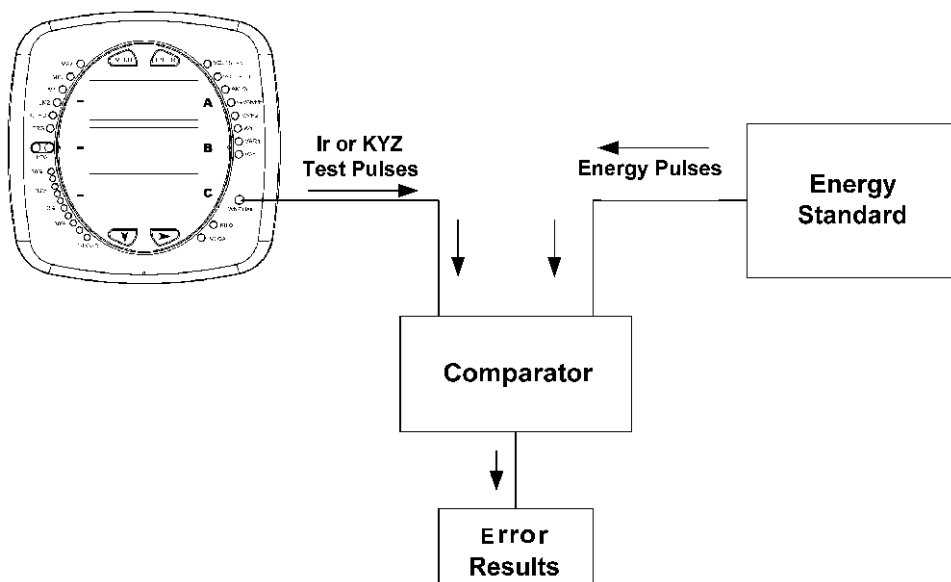

Figure 6-5: Using the Watt-hour Test Pulse
- Refer to Figure 6.5 for an example of how this process works.